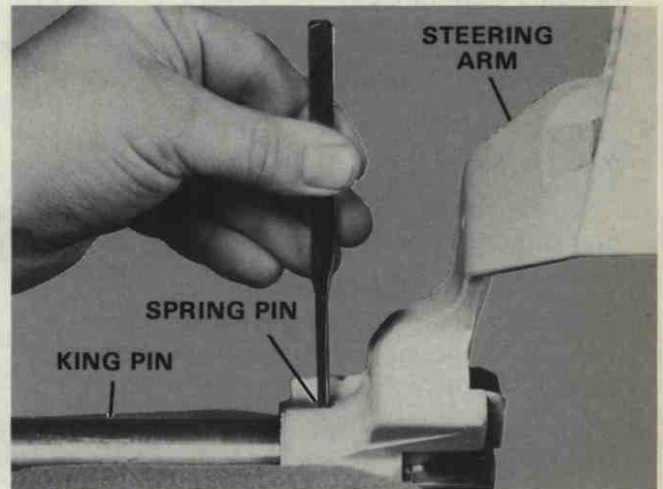

Figure 7. Removing King Pin from Steering Arm.
- C. Remove king pin. Figure 7.